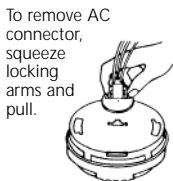

FIGURE 6
5. Plug the AC QUICK CONNECTOR into the back of the alarm (see figure 6), making sure that the locks on the connector snap into place. Then push the excess wire back into the electrical box through the hole in the center of the trim ring.